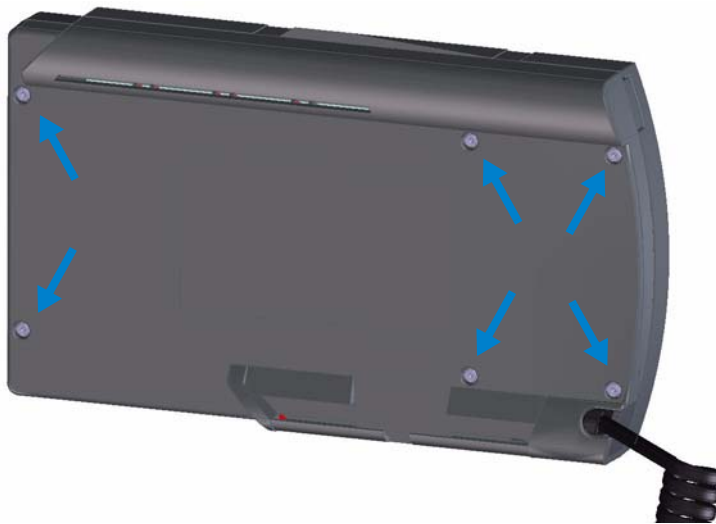

Figure 117 Rear Panel - location of screws
- 1 Place the Instant Pilot face down on a bench (as shown in Figure 117).